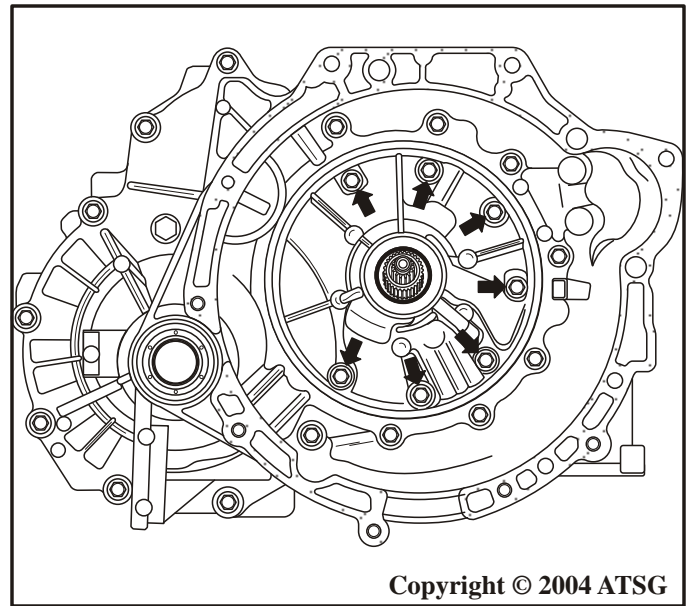

Figure 20
1. Remove the seven oil pump retaining bolts, as shown in Figure 20.